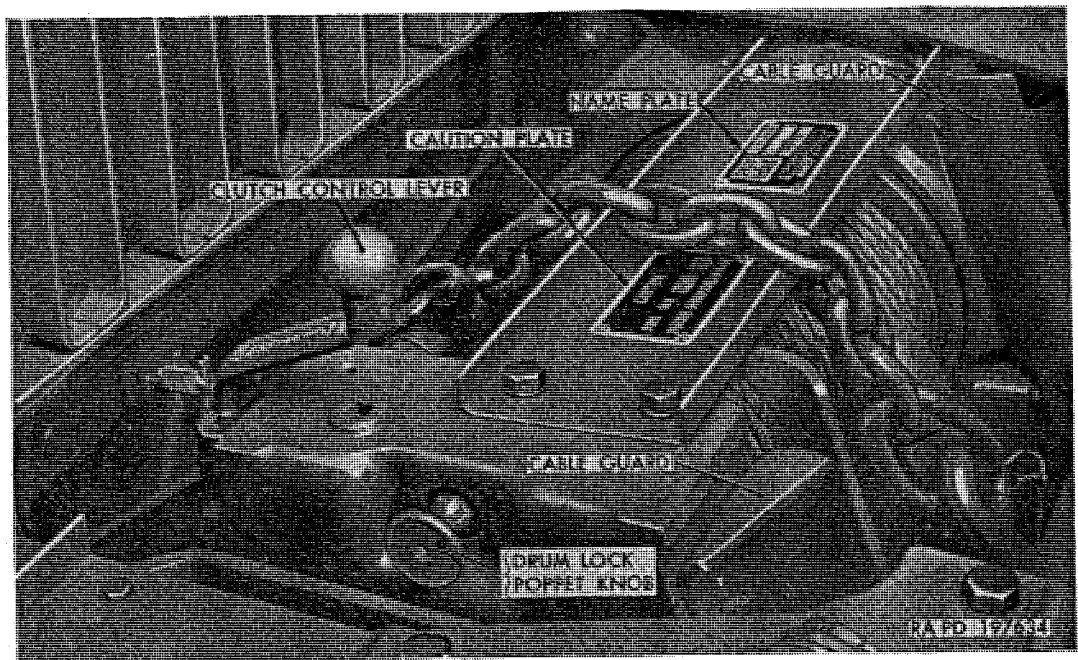

Figure 43. Controls at winch.
- (1) *Clutch control lever.* Hand-operated clutch control lever (fig. 43), located at right side of winch, is used to engage or disengage winch drum from power-take-off drive shaft. On late vehicles, the lever handle is marked *CLUTCH IN* with an arrow pointing away from winch, and *OUT* with an arrow pointing toward winch. These markings indicate direction to move handle to place drum in engagement or out
- (2) *Drum lock poppet knob.* Knob (fig. 43) on right side of winch frame permits locking drum to prevent unwinding of cable when underway. To lock or engage drum, the knob should be completely in to permit the poppet to engage one of several holes in the flange of drum. To disengage drum to permit winch operation, pull out knob and turn one-quarter turn.
- (3) *Automatic controls.* An automatic safety brake in winch mechanism will sustain the load while power-take-off lever
- (1) Place power-take-off lever (in cab) into CENTRAL NEUTRAL position.
- (2) Push clutch control lever at winch (fig. 43) toward winch (or in direction of arrow marked OUT on lever handle). Push lever against stop on some vehicles. Winch cannot be operated by power-take-off with lever in this position.
- (3) Make sure that drum lock poppet knob at winch (fig. 43) is in locked position (par. 48d(2)) to engage a hole in flange of drum. Cable will not unwind in this position.
- (4) Insert cable chain and hook through one front towing shackle; then place chain hook in opposite front towing shackle.
- (1) *With vehicle stationary.*
- (a) Pull out drum lock poppet knob (fig. 43); then rotate knob one-quarter turn to unlocked position.
- (b) Pull clutch control lever (fig. 43) as far as possible (in direction of arrow marked IN on lever handle) away from winch drum to engaged position.
- (2) *Winching out vehicle with driving wheel assistance.*
- (a) At winch, pull out drum lock poppet knob (fig. 43); then rotate one-quarter turn to unlocked position. Pull clutch control lever as far as possible (in direction of arrow marked IN) away from winch drum to engaged position.
- (1) Paying out or unwinding cable under load should be accomplished from cab after controls at winch are positioned. At the winch, pull out drum lock poppet knob; then rotate one-quarter turn to hold in unlocked position. Pull clutch control lever as far as possible (in direction of arrow marked IN) away from winch drum to engaged position.
- (2) Place transmission shift control lever in N position; then start engine.
- (3) Place transfer lever in DOWN NEUTRAL position. Place power-take-off lever in UP REVERSE position.
- (4) With engine idling, place transmission shift control lever in F-2 in LOW RANGE position. Accelerate engine to pay out cable. Do not accelerate over one-third throttle.
- (a) At the winch (fig. 43), pull out drum lock poppet knob, and then rotate one-quarter turn to unlocked position. Pull clutch lever away from winch drum (in direction of arrow marked IN on lever handle) to engaged position. Attach cable hook to a suitable anchor to provide tension on cable while winding.
- (b) Push clutch control lever (fig. 43) as far as possible toward winch (or in direction of arrow on lever handle marked OUT). Pull out drum lock poppet knob and turn one-quarter turn to unlocked position.
- (d) At winch, wind in cable by means of clutch control lever (fig. 43). Pull lever away from winch (or in direction of arrow on lever handle marked IN) to engage winch drum. Push lever toward winch (or in direction of arrow on lever handle marked OUT) to disengage winch drum.